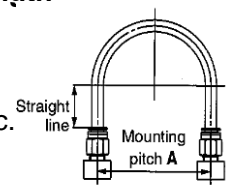

Figure 1 Recommended piping
### (1) When connecting piping to the One-touch fitting, use a pipe length with sufficient margin, in accordance with the piping conditions shown in Figure 1.